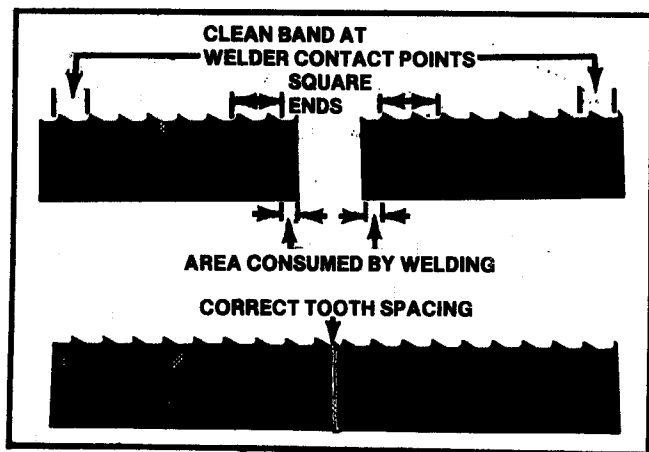

FIG. 2. BAND PREPARATION FOR WELDING.
- (1) Cut band to correct length. Make sure ends are square. See Fig. 2.